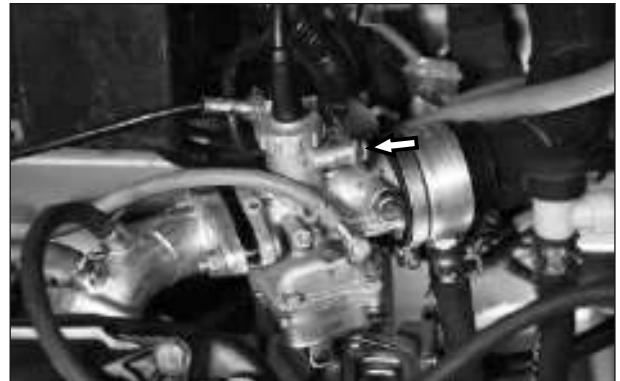

Fig. 4.17
- Remove the screw assembly (choke lever) along with spring washer from bracket choke cable. (Fig. 4.17)